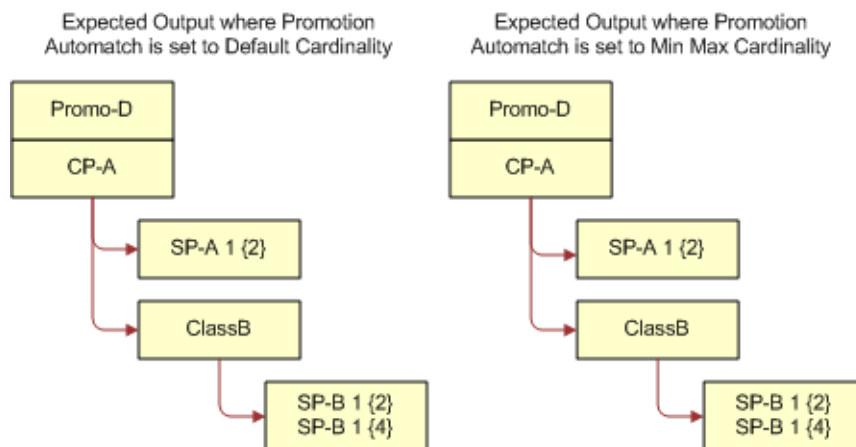

Figure 14. Expected Output for Handling Attribute Defaults Example
- 3 The expected output for attribute defaults when you apply a promotion (Promo-D) to a customizable product (CP-A) that is based on the Promotion Automatch argument value is shown in Figure 14.
Figure 14 shows the expected output when Promotion Automatch is set to Default Cardinality, which is as follows: SP-A has a default quantity of 1 and the attribute value 2. SP-B has a default quantity of 1 and the attribute value 2. SP-B has a default quantity of 1 and the attribute value 4.
Figure 14 shows the expected output when Promotion Automatch is set to Min Max Cardinality, which is as follows: SP-A has a default quantity of 1 and the attribute value 2. SP-B has a default quantity of 1 and the attribute value 2. SP-B has a default quantity of 1 and the attribute value 4.
Figure 14 shows the expected output for attribute defaults when Promotion Automatch is set to Default Cardinality, and when Promotion Automatch is set to Min Max Cardinality.